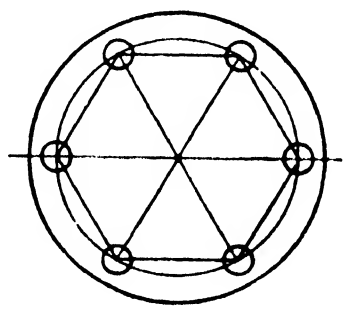

FIG. 91.
**Six-hole Flanges.**—The position with a six-hole flange is that two holes are sure to occur on one plane, either the vertical or the horizontal, as shown in the sketch (Fig. 91). In ordering flanged pipes for such it is necessary in all but plain straight ones to state on which centre line the two holes occur.
geometry. After describing the circle for the holes one may often see the marker-out doing a lot of guess-work with his dividers to find the correct pitch, never thinking for one moment that the dividers set to the radius will step exactly six times around the circle already described. Here is a simple means of pitching out six holes, and any multiple of that number is easily obtained afterwards. To those readers who are not acquainted with geometry the sketch Fig. 91 explains this very simply.